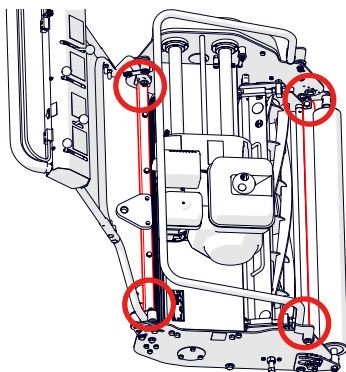

Fig.25. Anchor points for transport.
- Anchor the machine to the floor/pallet using suitably rated tie-down straps. Anchor around the front and rear tie-bars (high-lighted red in Fig.25).